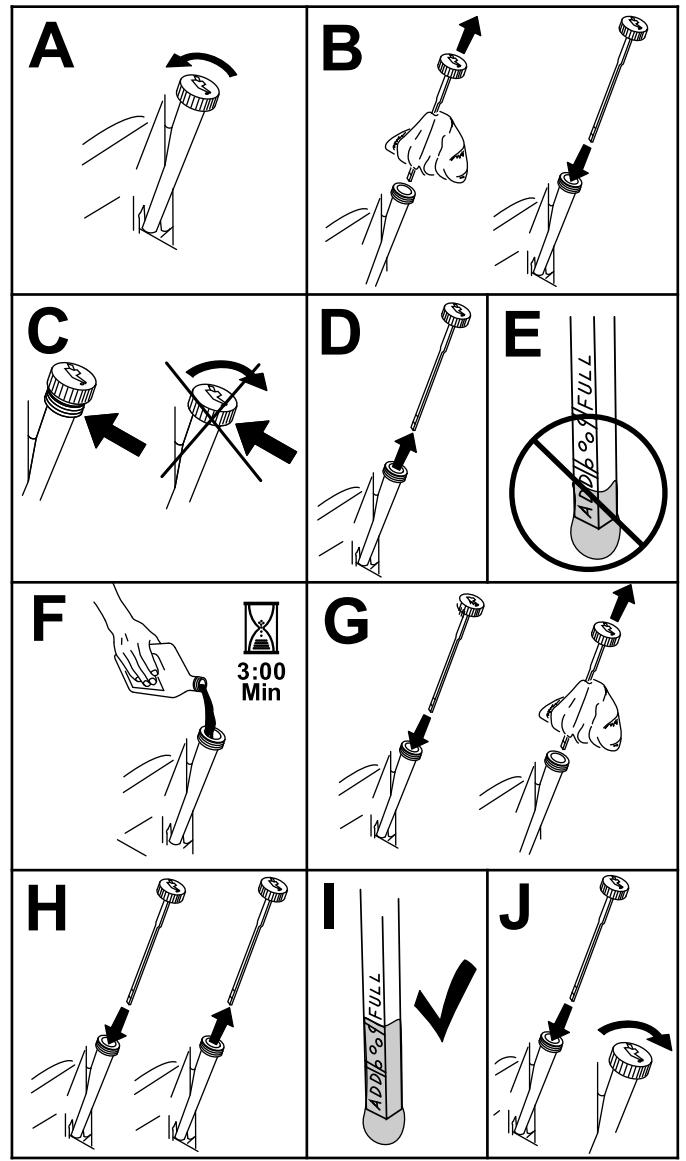

Figure 50
3. Check the engine-oil level as shown in (Figure 50).